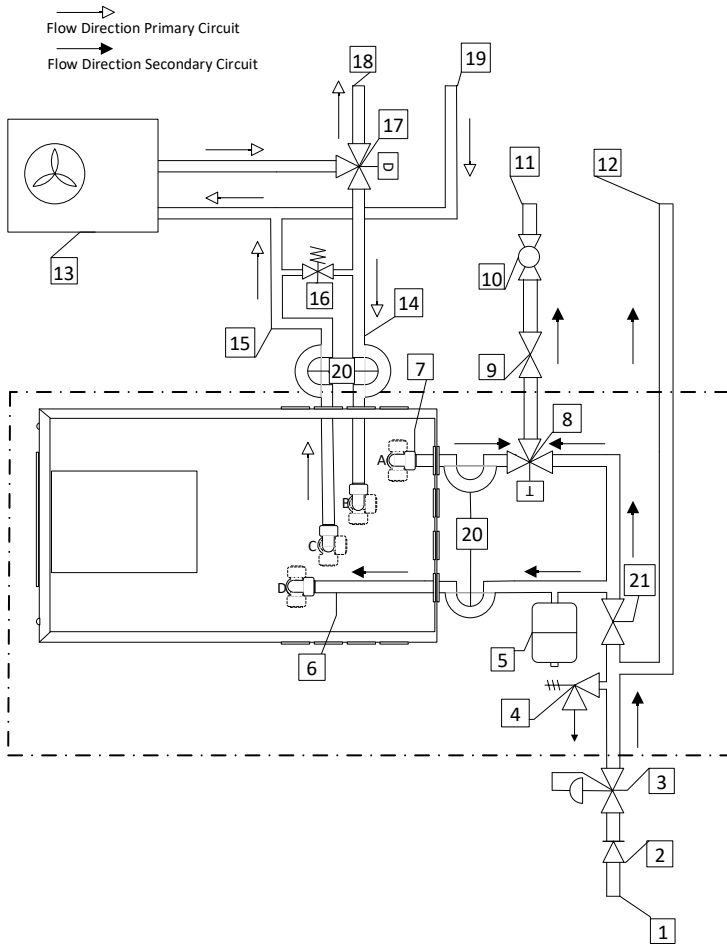

Figure 8 - Thermino xPlus plumbing diagram
Please follow the instructions below in conjunction with Figure 8 for the Heat Battery hydraulic installation:
- The cold water inlet must be connected to Port D & the hot water outlet to Port A. Meanwhile the External Heat Source Flow to Heat Battery must be connected to Port B & External Heat Source Return from the Heat Battery to Port C (Figure 8).
The components within the dotted line in Figure 8 must be fitted with each Heat Battery installation. The BERV can be located away from the Heat Battery, provided there are no check valves between the BERV and the Heat Battery. The BERV can be discharged in existing internal or external drainage according to local codes and regulations.
Table 6 - Figure 8 diagram descriptions